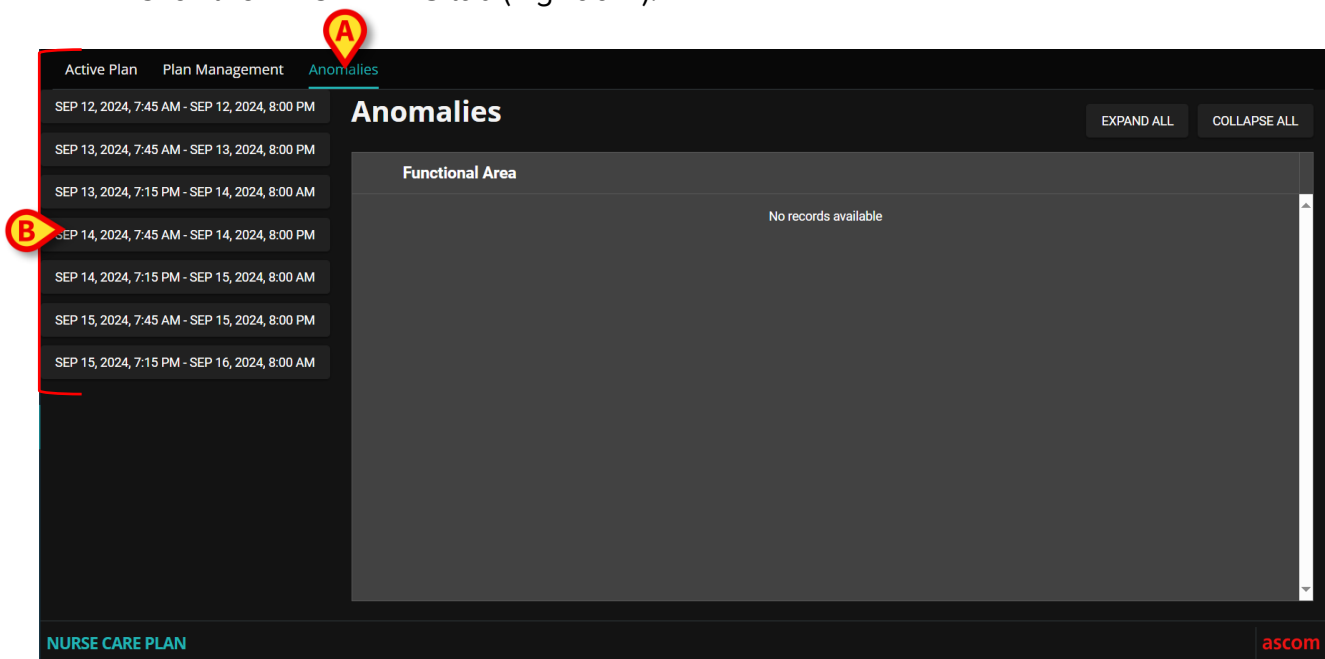

Fig 100
To access the “Anomalies” screen (Fig 100):
- Click the ANOMALIES tab (Fig 100 **A**).
On the left are listed the shifts in which at least an anomaly occurred (Fig 100 **B**).